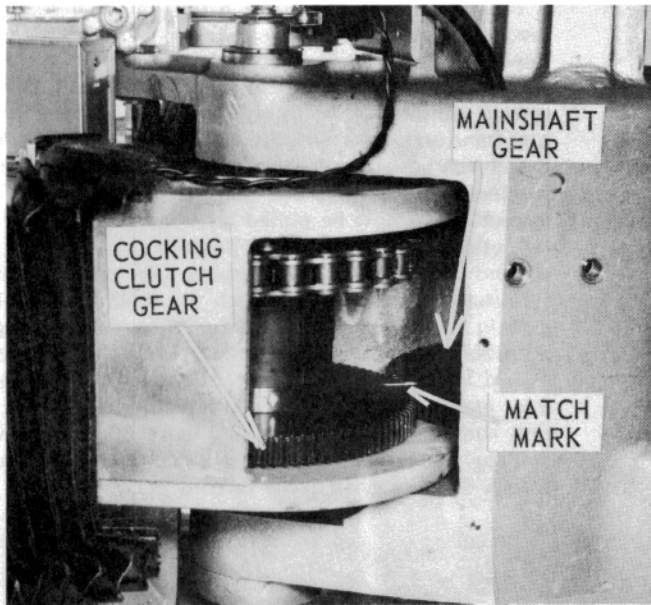

Figure 43 – Match Mark on Cocking Clutch Gear and Mainshaft Gear
- 2.1.3 Match mark the cocking clutch gear and the mainshaft gear (see Figure 43). This permits the gears to be correctly phased when reassembling.